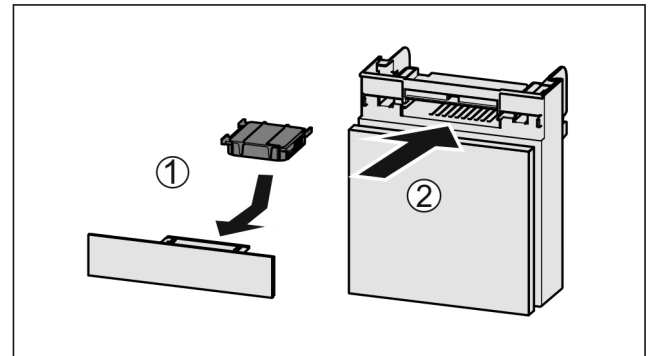

Fig. 99
- Insert the carbon filter as shown in the diagram Fig. 99 (1).
- Push the compartment in Fig. 99 (2).